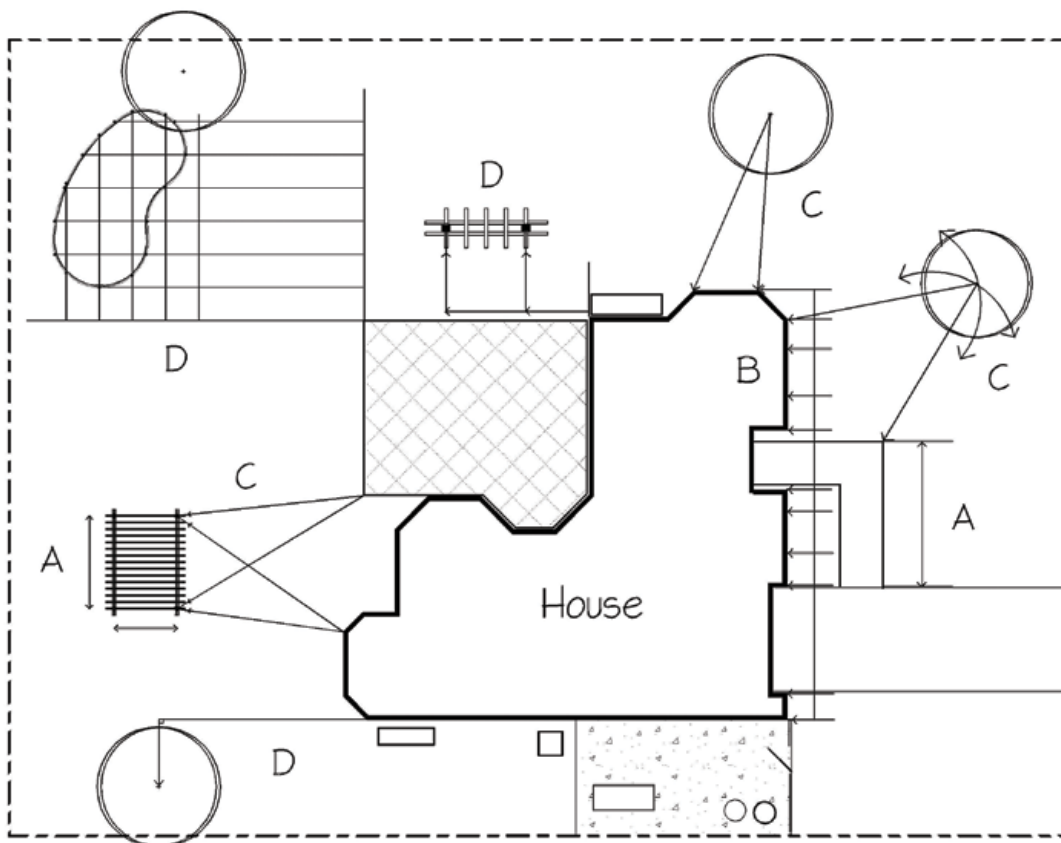

FIGURE 3. Measurement methods (Credit: Gail Hansen)
There are several different methods for measuring features on the site, depending on the type of feature and the location. Figure 3 shows all of the different methods used in a yard. Point-to-point (A) is a simple measurement of length. Baseline (or running) measurements (B) are used along walls or other linear features to measure several